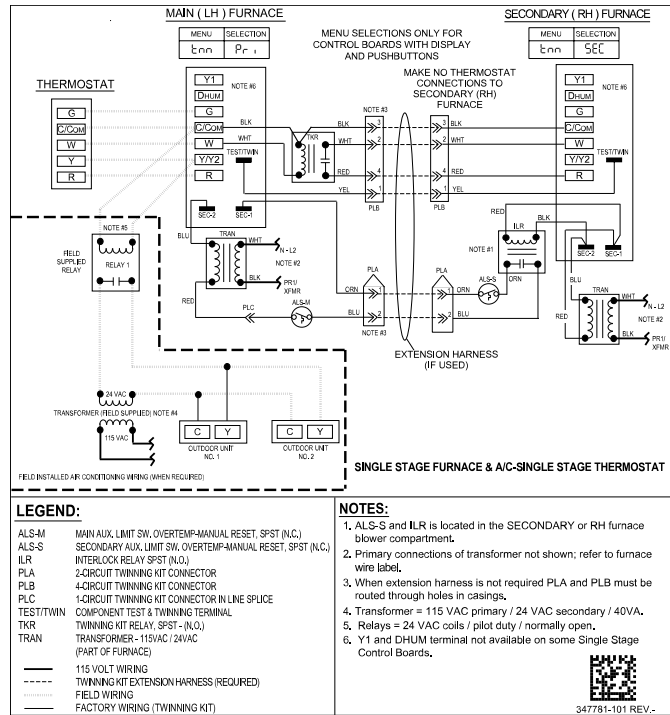

Fig. 20 – Single-Stage Furnace with Single-Stage Thermostat
- a. For single-stage operation of single-stage furnaces connect the White wire with the fork terminal labeled "W" on the TKR to the "W" terminal on the thermostat strip of the Main furnace control board. See Fig. 20.
See Fig. 20.
See Fig. 20 and Table 4